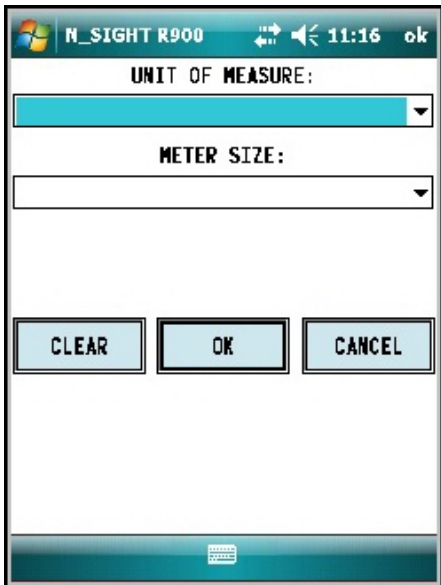

Figure 54 – Meter Size Selection
5. You are prompted to provide meter size and unit of measure. You can type this information now and click **OK** or after the data logging has completed. See Figure 54.